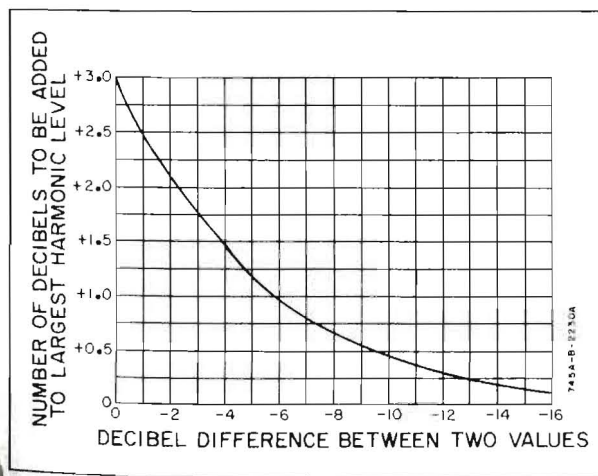

Figure 5-12. Logarithmic Addition of Harmonic Components
2) Using the chart below (Figure 5-12), determine the dB to be added to the largest harmonic level.